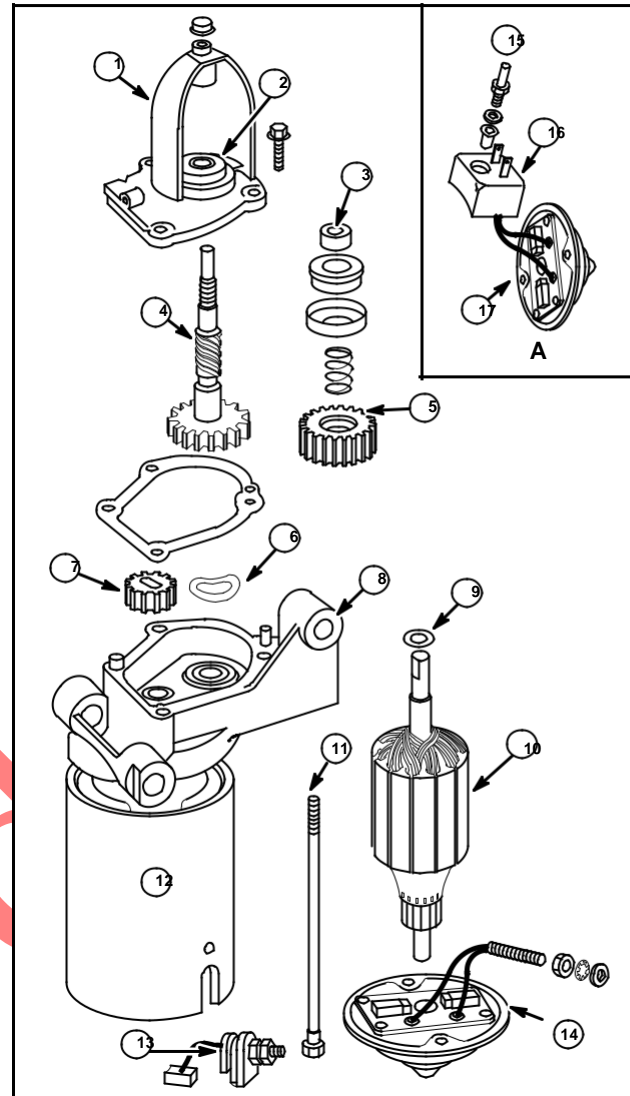

Fig. 48
12 Volt DC & 120 Volt AC Gear Drive Starter Motor, Steel Drive Pinion, Exploded View Fig. 48
This system uses either a 12v DC or 120v AC starter motor. They are covered together in this section. Study Fig. 48 prior to starter motor disassembly.
1. Remove drive housing (1) from end head (8), Fig. 48.
2. Clamp the drive gear (4) in a vise with brass jaws, to prevent damage to the gear teeth.
3. Remove the lock nut (3) and disassemble.
11. Add a small amount of gear lubricant to gear teeth. Position gasket, spring washer and drive housing assembly, Fig. 48.